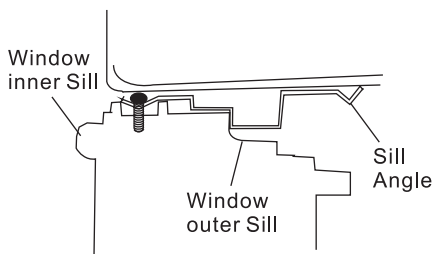

Fig.12
2. Place cabinet in window with bottom sill angle firmly seated over window sill as shown. Bring window down temporarily behind top angle to hold cabinet in place (Fig.12).